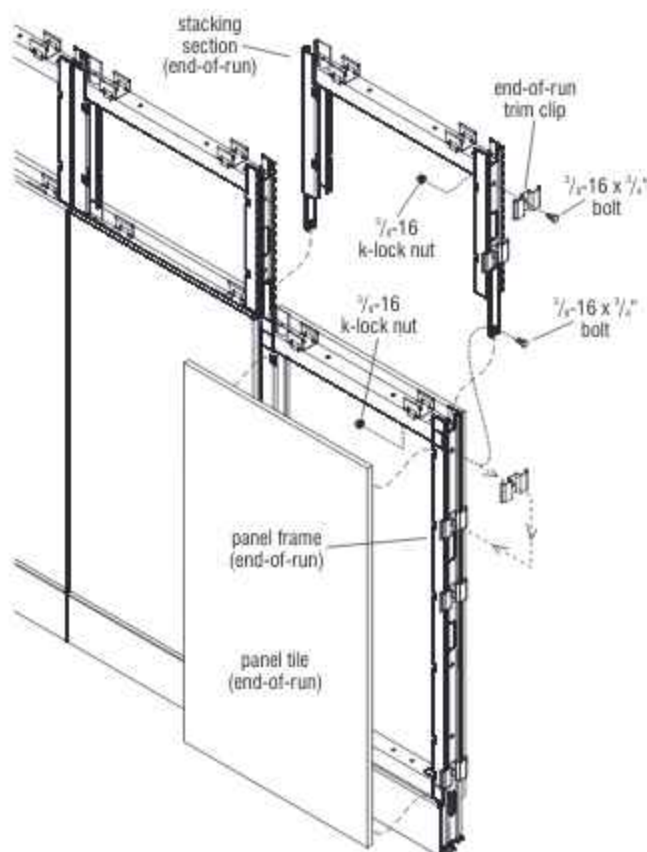

Figure 9 - Stacking Sections (steel frame) - End-of-Run Vertical Stacking Post Assembly
the vertical post. Set panel tile aside until instructed to assemble back onto the panel frame (Figure 9).
2. At the "end-of-run panel frame," the uppermost end-of-run clip must be re-installed one hole location below the top mounting hole. This is so the "fork" of the stacking section can install to the end of the lower panel frame. Loosely insert a shorter  $\frac{3}{8}$ -16 x  $\frac{3}{4}$ " hex head bolt to the top mounting hole of the end panel frame, then twist on a  $\frac{3}{8}$ -16 k-lock nut. **Note:** The nut must be positioned inside the panel frame and a flat washer is not required. Next, place stacking section post at end of the panel frame as illustrated, with the notch of the fork resting on the  $\frac{3}{8}$ -16 x  $\frac{3}{4}$ " bolt thread. Tighten the hex bolt and k-lock nut to secure (Figure 9).